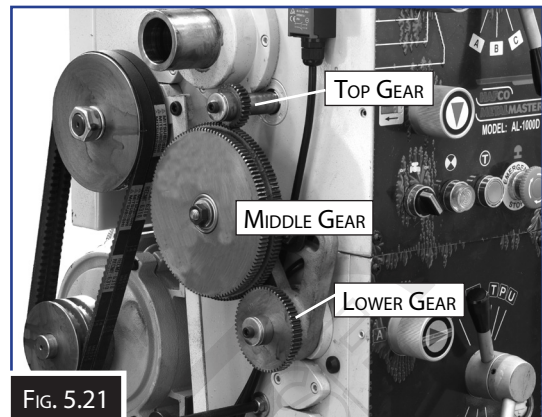

FIG. 5.21
The end gears are used to setup for power feed, inch, or metric threading operations. See Fig. 5.21 to identify the upper gear, middle 120T/127T change gears, and the lower gear. Details on which gear to use are found on the headstock feed and threading charts.
5. Loosen the 120T/127T gear hex nut and slide the middle gear away from the bottom gear. The 120T/127T gears many need to be reversed. Undo the 120T/127T gear hex nut (Fig. 5.21) and reverse the gears.